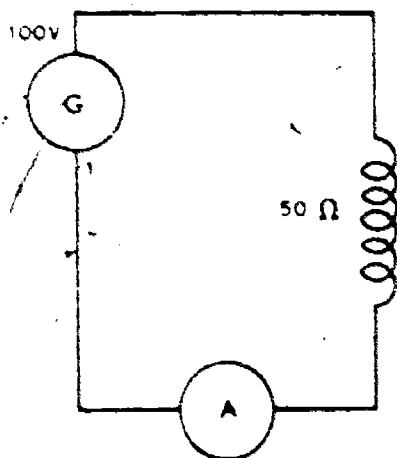

Figure 3
13. What is the current flow in the circuit shown? (Figure 3)